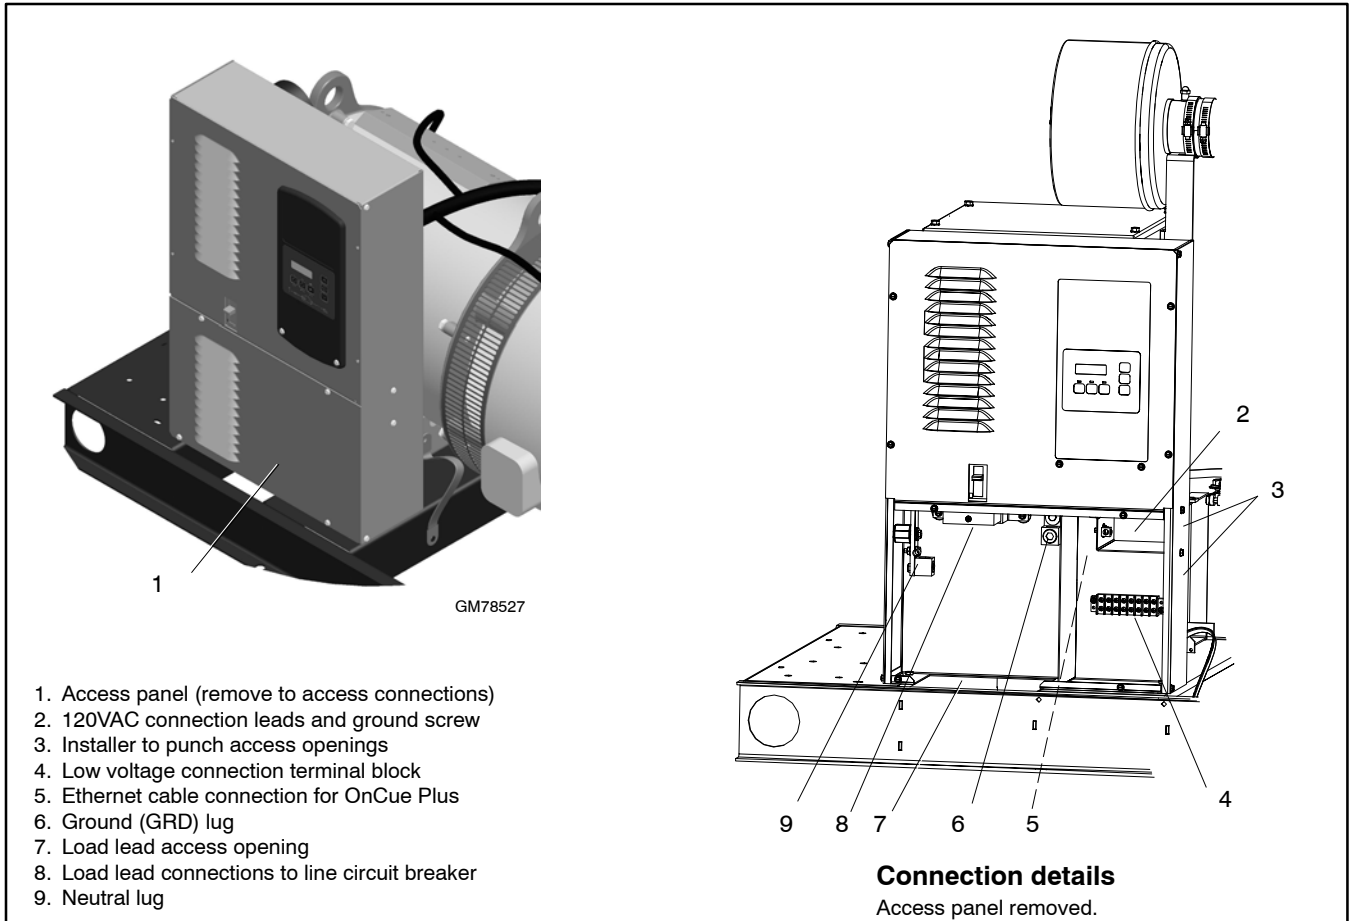

Figure 1-10 Generator Set Connections
Ground the generator set. The grounding method must comply with NEC and local codes. Connect the ground to the generator set ground lug, terminal GRD inside the junction box (see Figure 1-10). Connect the grounds for utility and low voltage connections to the ground lugs provided in the customer connection box for those specific connections (see Figure 1-10).
Connect power to the leads in the utility power connection area shown in Figure 1-10. See the wiring diagrams in Section 4 for connection details. See Figure 1-9 for the power requirements for the battery charger and accessories.
See Figure 1-10. Make all AC and DC customer connections inside the customer connection box. Do not remove the end panel or make connections inside the junction box. Refer to the wiring diagrams in Section 4.
1. Route the load leads into the junction box through the access opening in the bottom of the box. Connect the load leads from the line circuit breaker in the generator set junction box to the transfer switch emergency power connection points. See Figure 1-10 and refer to transfer switch installation manual for ATS connection instructions.
3. Cut or punch openings in the side of the connection box for the 120 VAC power supply leads and the low voltage connections. See Figure 1-10. Use separate conduit for the power leads and the low voltage leads.